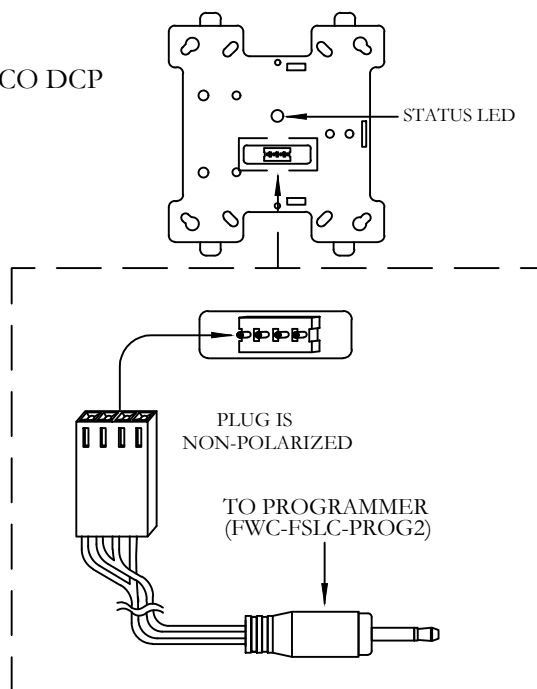

FIGURE 1.
- 3) Address must be set before cover plate is attached (see Figure 1).